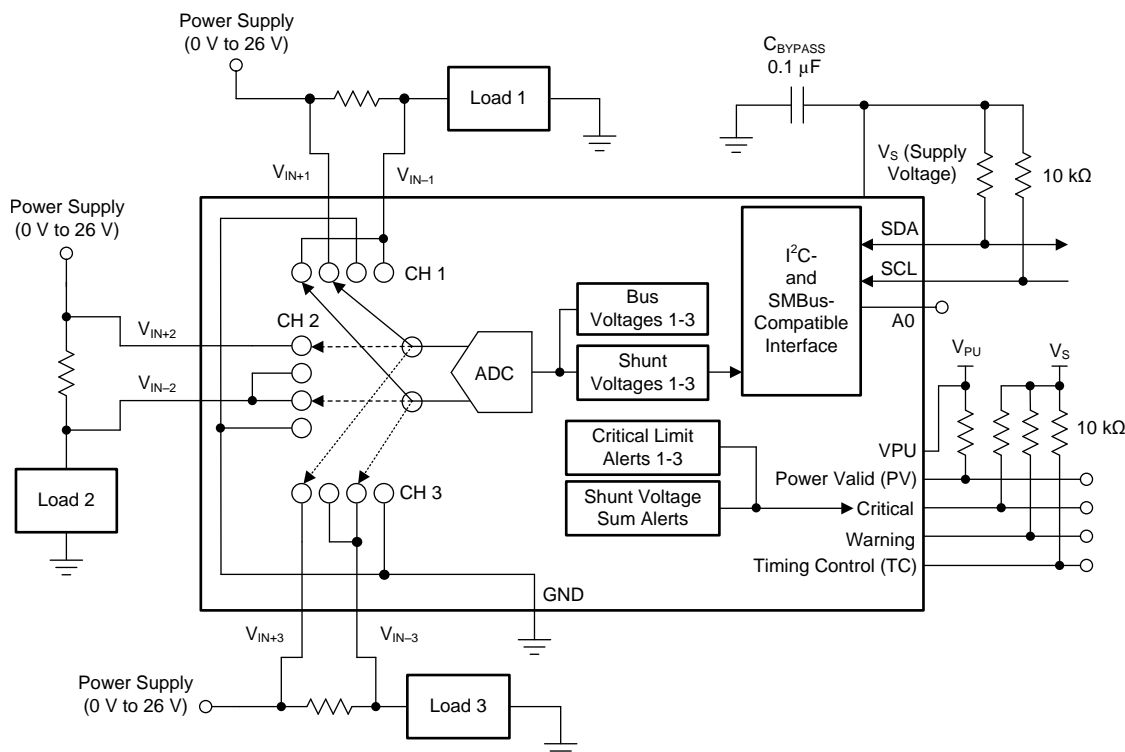

图 52. INA3221 as an Overcurrent Sensor
图 52 illustrates a typical INA3221 application circuit using all three channels. For best performance, use a 0.1- μ F ceramic capacitor for power-supply bypassing, placed as close as possible to the supply and ground pins. The digital pins (SCL, SDA, Critical, Warning, TC) are connected to supply through pull-up resistors. The power valid (PV) alert pin is connected to the VPU pin through a pull-up resistor to enable power-valid monitoring.